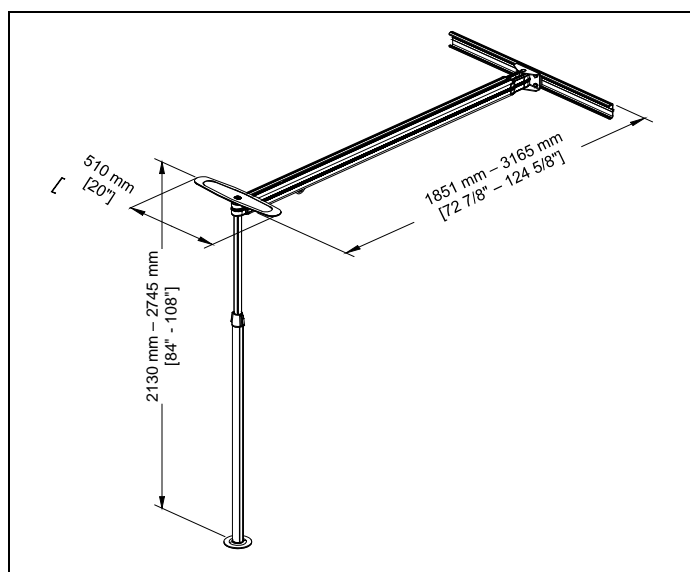
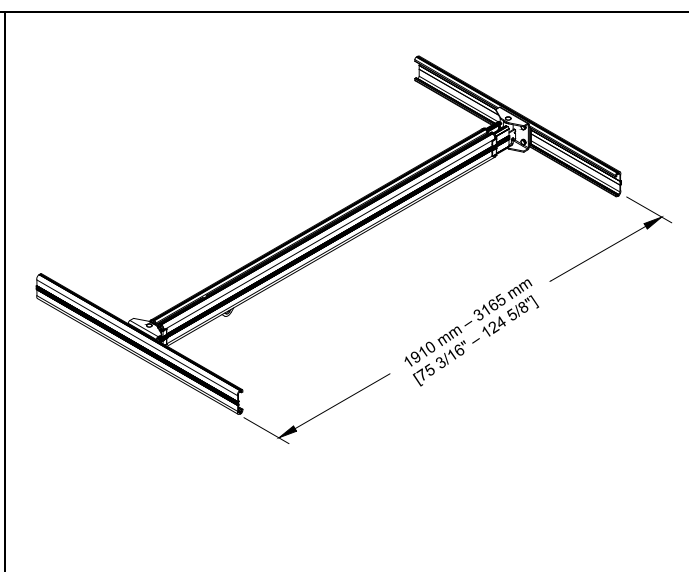

Figure 4
Figure 5
- ◆ Transfers should only take place under the Easytrack rail (see **Figure 4** and **Figure 5**).